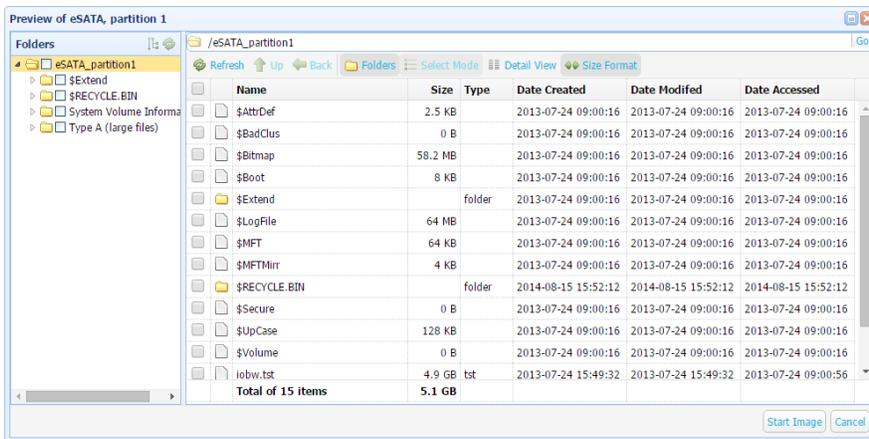

Figure 10. The file navigation tree.
- ii. Use the navigation tree to select the files and folders you wish to image (see Figure 10).